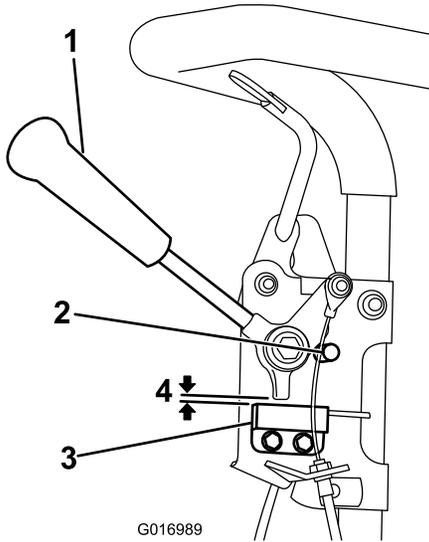

Figure 29
1. Make sure that the engine is off and the traction lever is disengaged and resting against the neutral stop (Figure 29).
2. Loosen the interlock switch mounting fasteners (Figure 29).
3. Place a 0.8 mm (.032 inch) thick shim between the traction lever and the interlock switch (Figure 29).